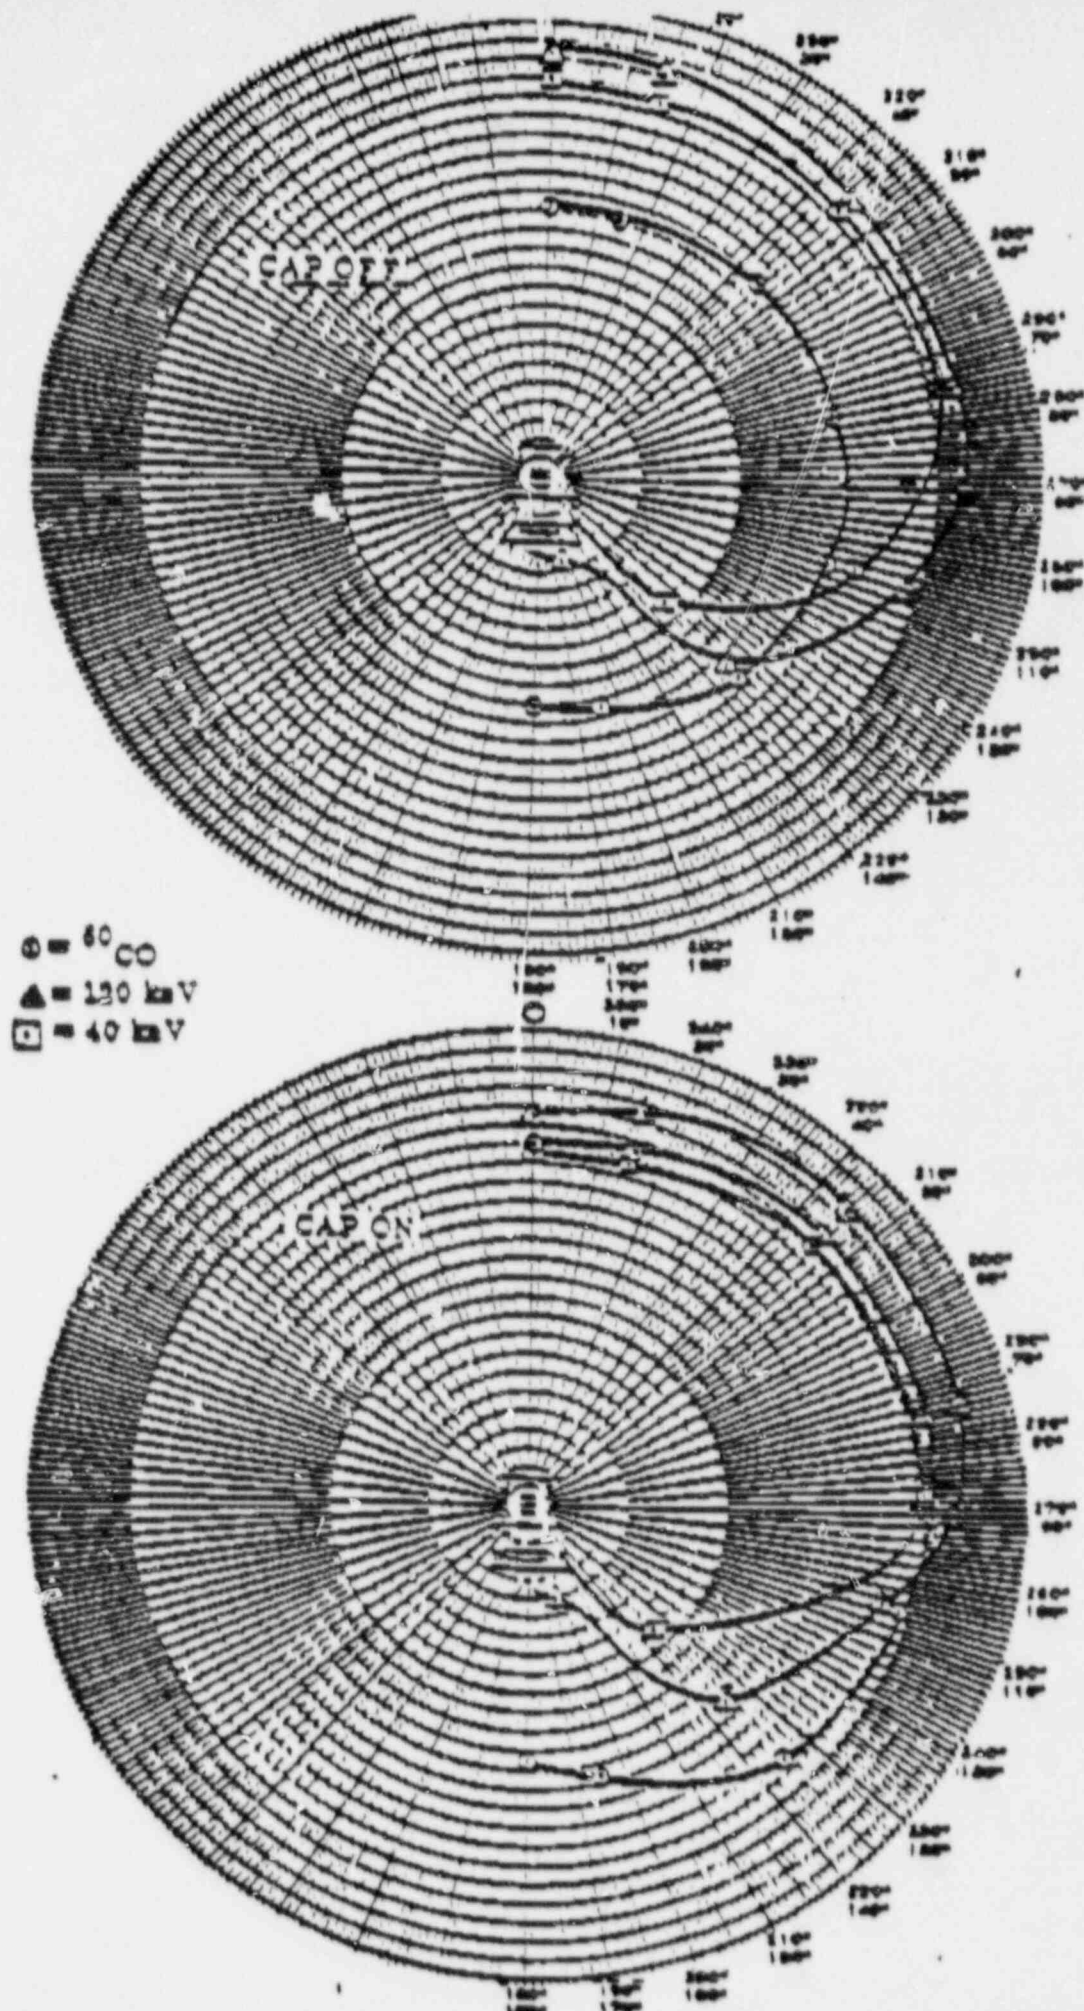

FIGURE 7. 470A, Angular Dependence
5.1.3 Angular Dependence - The shape, wall material, center electrode design, and position of the ionization chamber of the Model 470A results in an instrument response relatively independent of the direction of the incident radiation. Figure 7 gives the relative angular response of the Model 470A with the equilibrium cap on and off respectively, at 1.3 MeV ( $^{60}\text{Co}$ ), and 120 keV and 40 keV effective.